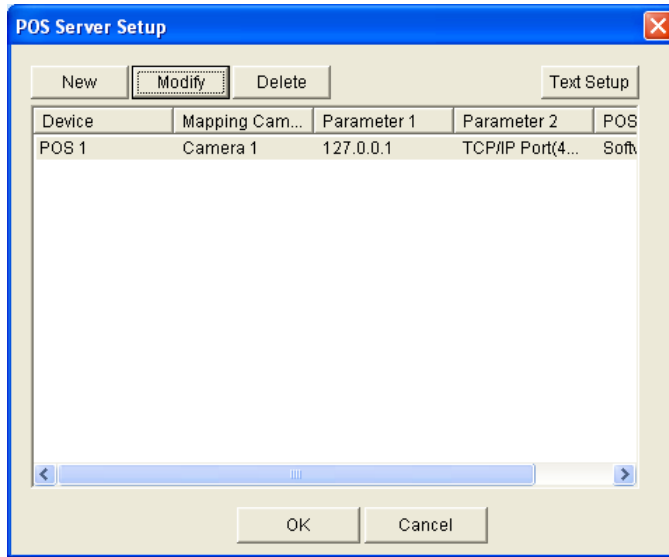

Figure 7-9 POS Server Setup
1. Open the POS Server Setup window (Figure 7-9).